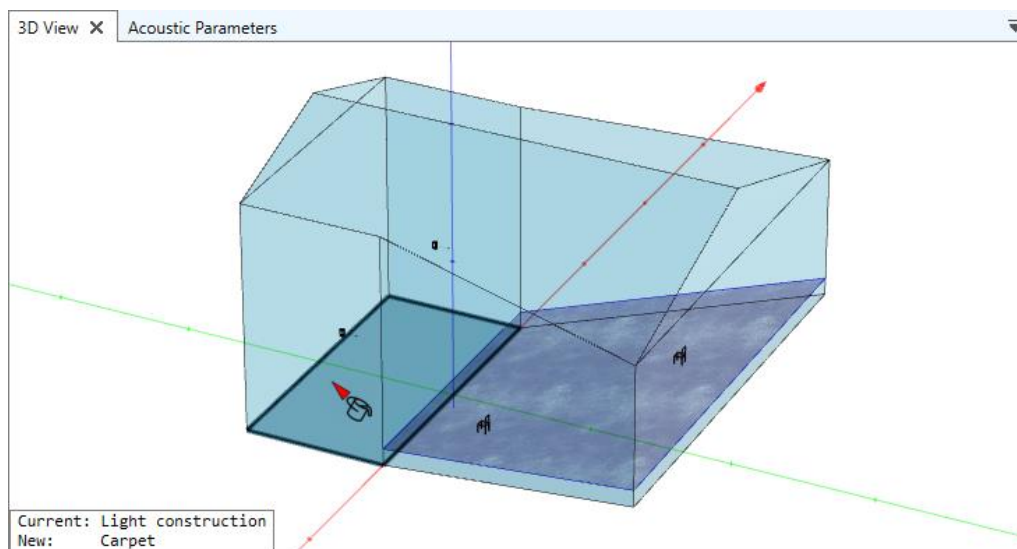

Figure 7.27 Replacing the material assigned to a face. The status text in the lower left shows the current material as well as the new one.
1. If there are no faces currently selected when you choose an item from the list, the drop-down will be removed and the mouse cursor will change to a paint bucket. In this mouse mode, materials can be assigned to faces by selecting the faces in the 3D view (Figure 7.27). Note that when hovering over a face the status text will show the previous material and the new material.